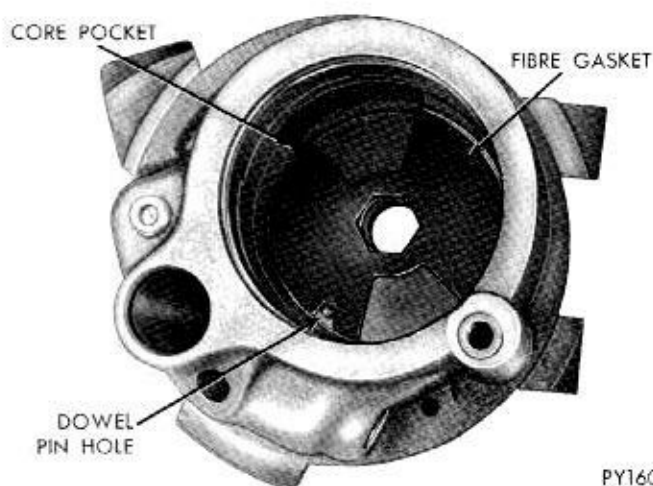

Fig. 26—Fibre Gasket Installed
(1) Install 1/8 inch pipe clean out plug. Tighten to 80 inch-pounds.
(2) Place pump body on flat surface and drive new shaft seal into bore with Tool C-4061.
(3) Install new end cover, "O" ring in groove in pump bore. Lubricate with power steering fluid.
(4) Lubricate new large pump body to reservoir "O" ring and install on pump body.
(5) Install new fibre gasket and brass seal plate to bottom of housing floor (fibre gasket on floor and brass seal plate on top of fibre). Note: **Pumps originally built with brass seal plate only, must be serviced with both brass seal plate and fibre gasket.** Align index notches in plate and gasket with dowel pin hole in housing; cut-out sections of gasket and plate should be in line with core pockets on side of housing bore (Fig. 26).